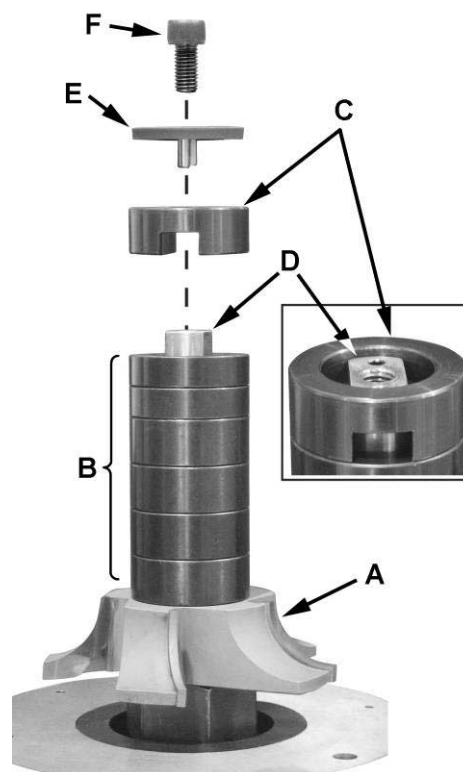

Figure 16
Referring to Figure 16:
The Model 2700 Shaper is equipped with pulleys that allow you to change the spindle speed. The *belt* (B) placed on the upper pulleys (as shown in Figure 16) provides 7,500 RPM spindle speed. Placing the belt on the lower pulleys provides 10,000 RPM spindle speed.
To change speed (refer to Figure 16):